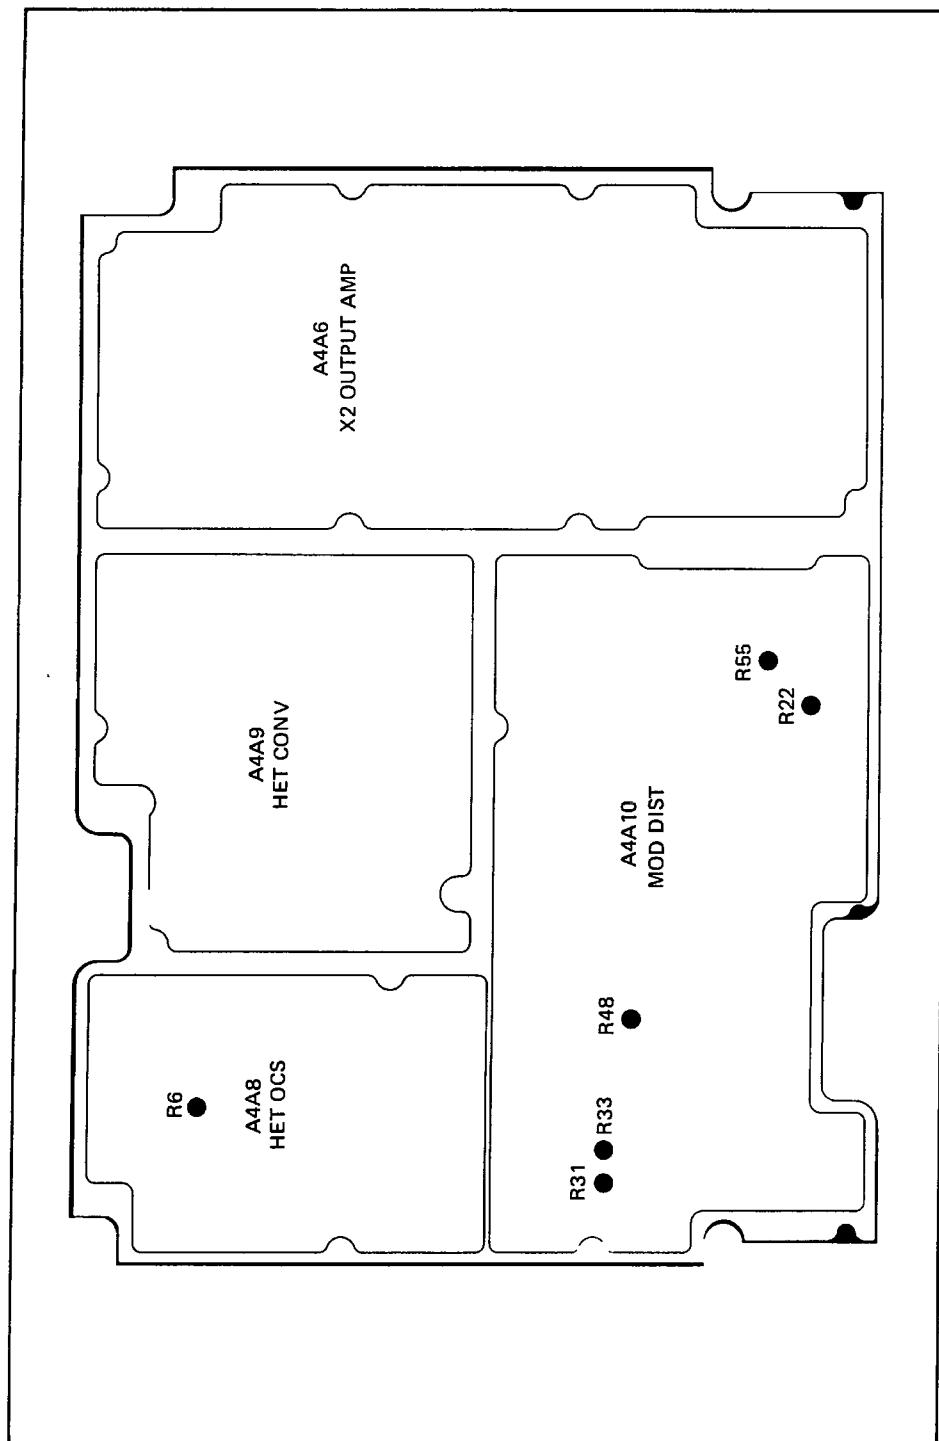

Figure 6-5. FM/BM Adjustments - Output Plate
4. Adjust R33 on the A4A10 Mod Distribution PCB (Figure 6-5) for a reading of 100.1 kHz on the Modulation Analyzer.
6. Adjust R31 on the Mod Distribution PCB (Figure 6-5) for a reading of 100.1 kHz on the Modulation Analyzer.
15. Adjust R48 on the Mod Distribution PCB (Figure 6-5) so that the readings in Steps 13 and 14 are symmetrical about 100.1 kHz. (It will be necessary to shift in and out of the HI DEV Mode (special functions 20 and 21) in order to make this adjustment.)
17. Program the UUT Modulation Frequency to 1 kHz and turn on the INT FM/0M control. Adjust R6 on the A4A2 Mod Oscillator PCB (Figure 6-5) so that the Modulation Analyzer reading is the same as the reading recorded in Step 16.  $V = 707 \text{ mV}$
4. Allow the Modulation Analyzer to settle, and record the settled reading. Press -PEAK and record the new reading. Adjust R22 on the A4A10 Mod Distribution PCB (Figure 6-5) so that the readings are symmetrical about 70.0% AM. Press +PEAK and -PEAK as necessary for new readings.
8. Adjust R55 on the A4A10 Mod Distribution PCB (Figure 6-5) for a reading of approximately +5 dBm on the Power Meter.